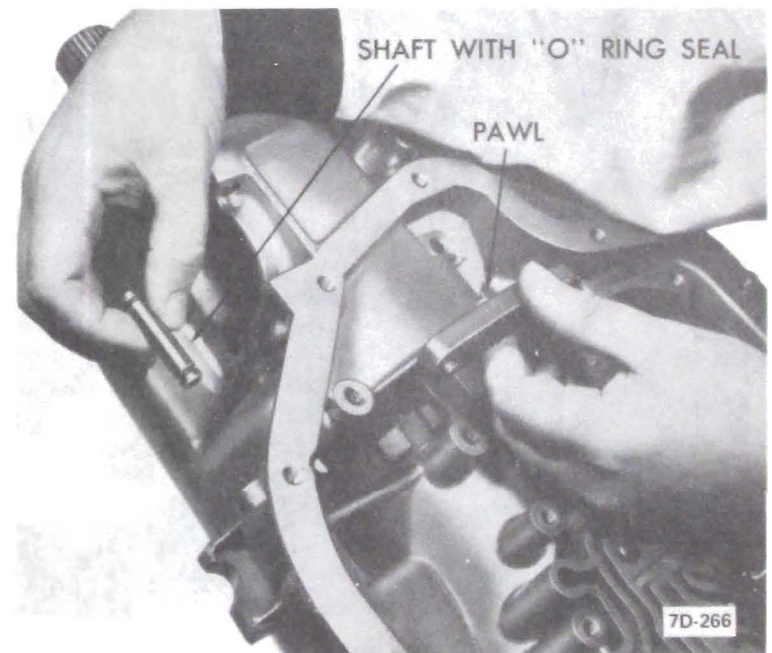

Figure 7D-266
c. Install dial indicator set at 0 as shown in Figure 7D-265.